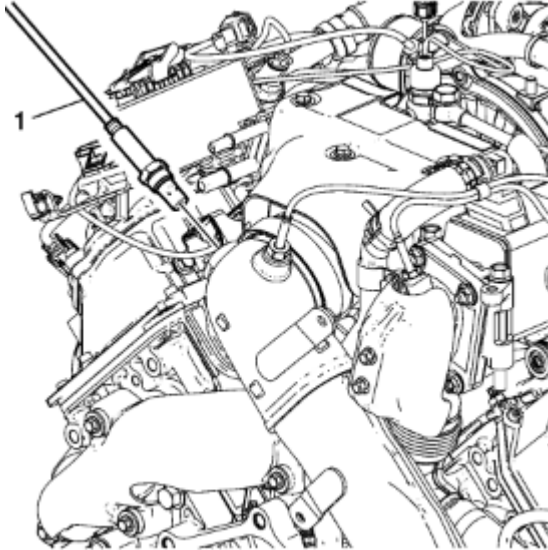

Fig. 132: NOx sensor installation
- c. Install the NOx sensor into the exhaust adapter as shown in figure 132 and torque the sensor to 33 lb-ft.